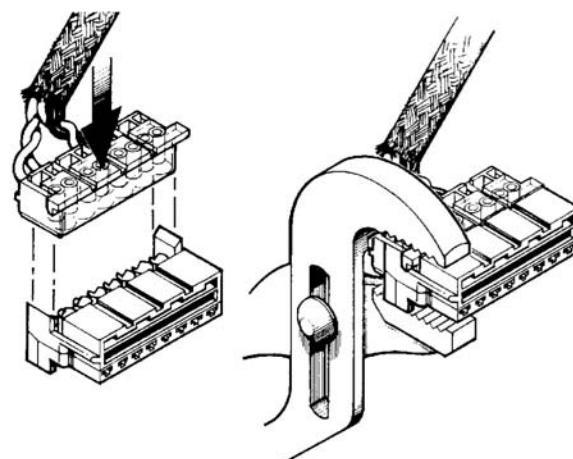

Figure 7
3. Align stuffer cap with contacts and press stuffer cap over contacts. Using slip joint pliers, fully seat the stuffer cap. See Figure 7.